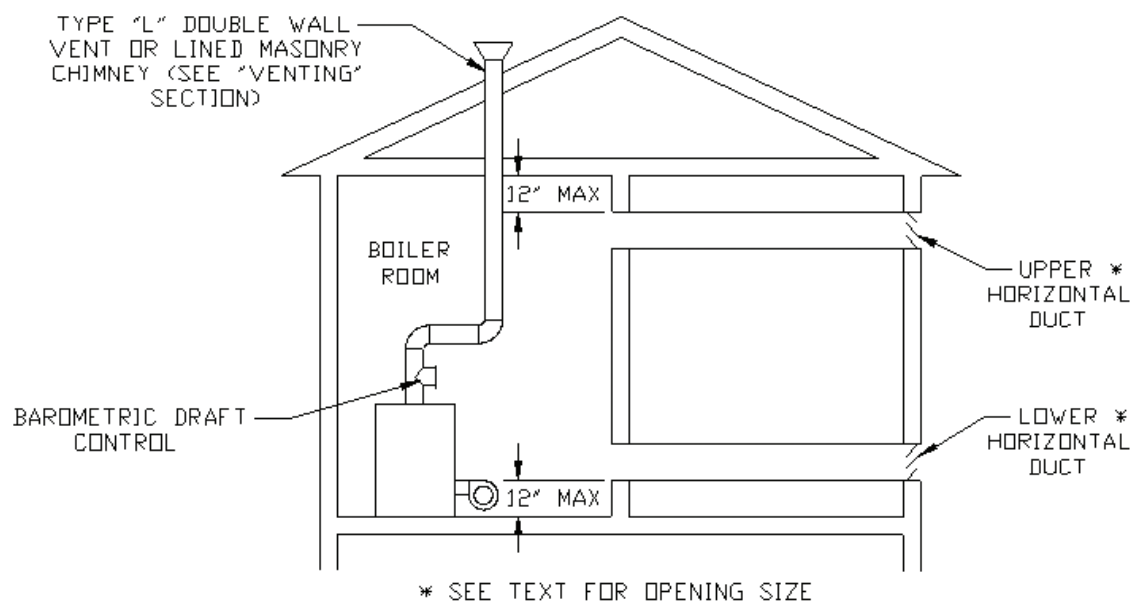

FIGURE 6.4: ALL AIR FROM OUTDOORS, USING HORIZONTAL DUCTS INTO BOILER ROOM
- Openings to outdoors via horizontal ducts (Figure 6.4) - Each opening must have a free cross sectional area of 1 square inch per 2000 BTU/hr of the total input of all fuel fired appliances in the boiler room but not less than 100 square inches. Minimum opening size is 3 inches.